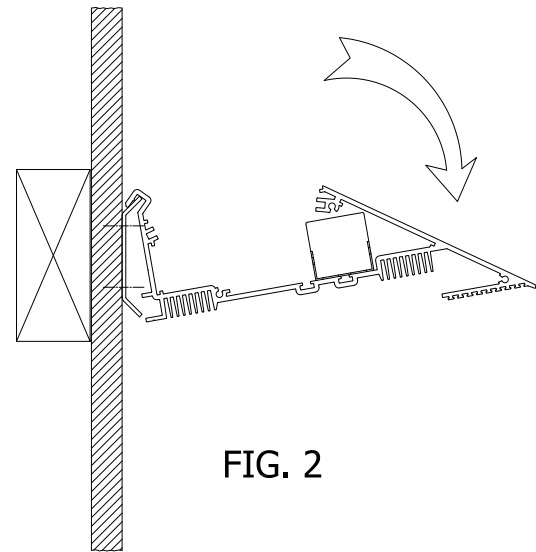

FIG. 2
- C) THE WALL TRIM BRACKET(S) LENGTH SHOULD MATCH THE ENTIRE LENGTH OF FIXTURE(S), CUT IF REQUIRED.
- F) ROTATE FIXTURE, HOOK TOP OF FIXTURE TO WALL TRIM BRACKET. SEE FIGURE 2.